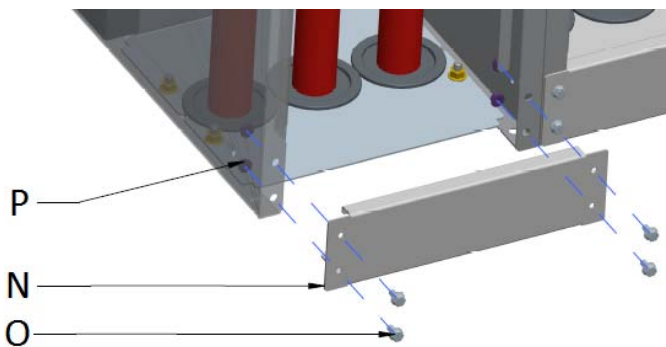

Figure 25: Assembly of the front panel of cable compartment
- Finally, the front panel (Figure 25 N) of the cable compartment needs to be put back using four self-securing hexagonal flange bolts (Figure 25 O) and two self-securing hexagonal flange nuts (Figure 25 P).